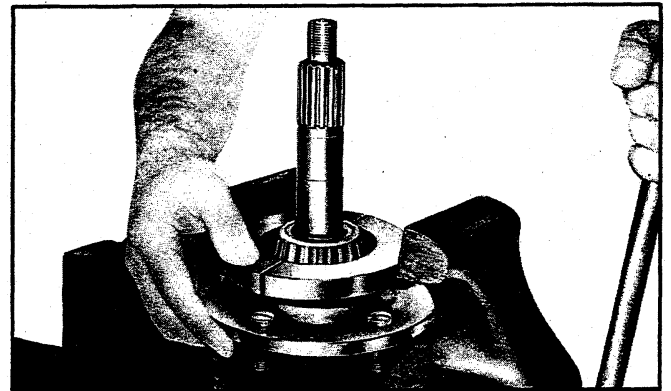

Fig. 49—Unseating Drive Spindle Outer Bearing (Corvette)
- a. Position Tool J-8331 between chamfered edge of bearing seat and inner race of bearing (fig. 49). Clamp Tool J-8331 in a vise and apply pressure to unseat bearing.